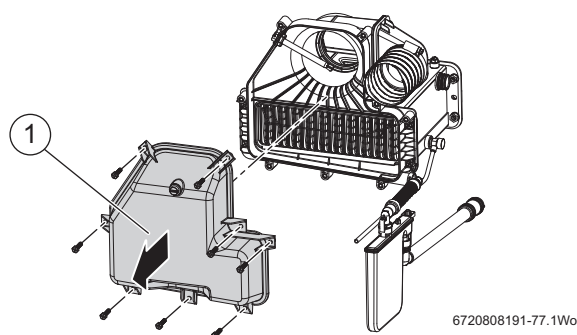

Fig. 55 Access to secondary heat exchanger
- ▶ Refit the flue manifold access cover item [1], figure 55, page 31 and secure with screws.